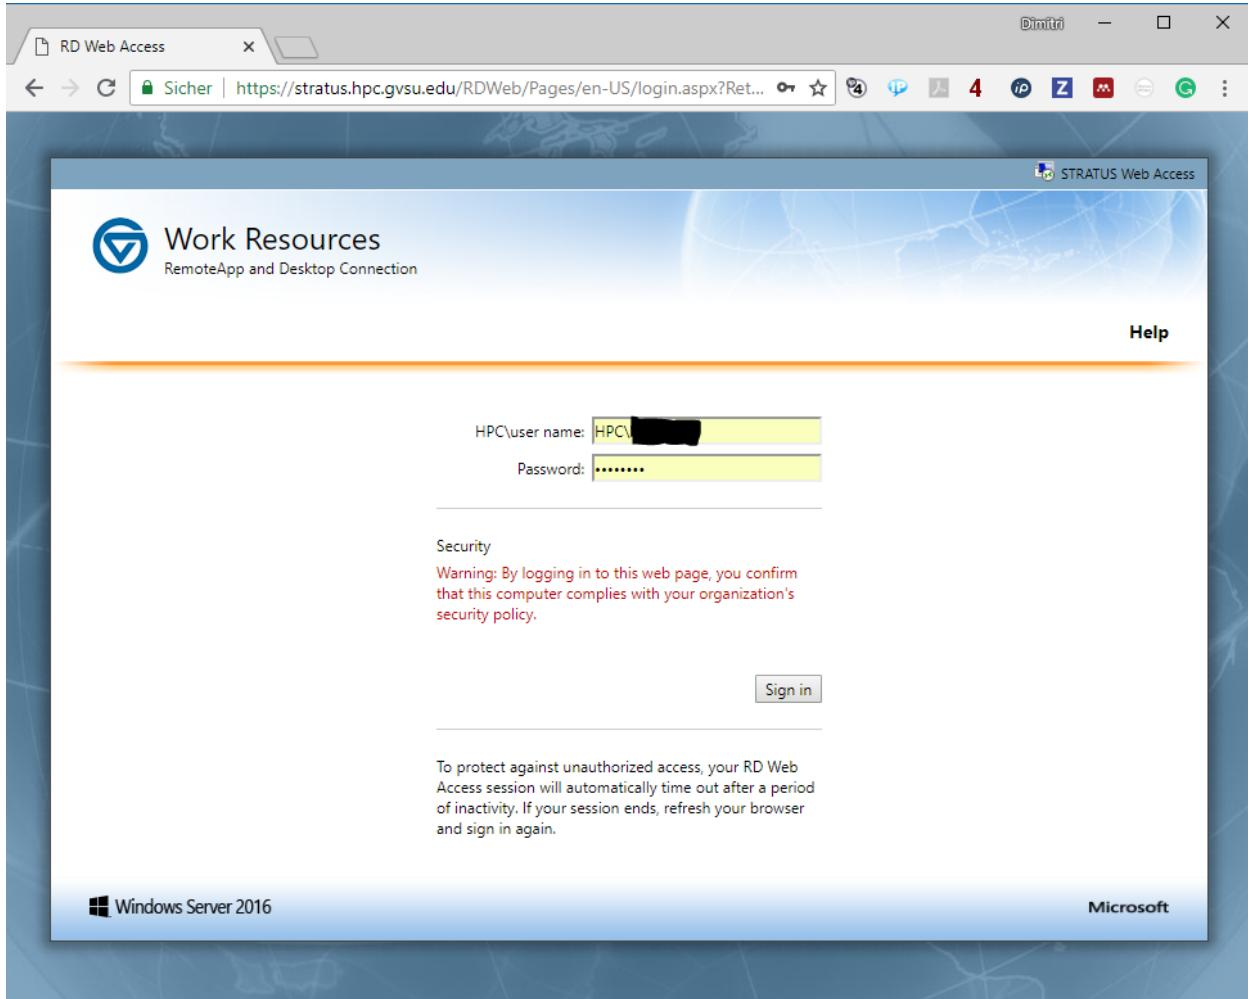

Figure 2: Stratus login for blade server access.
1. Open your web browser, preferred Google Chrome and use the following link <https://stratus.hpc.gvsu.edu>. A login screen should appear that allows you to login with your engineering network credentials, as shown in figure 2.